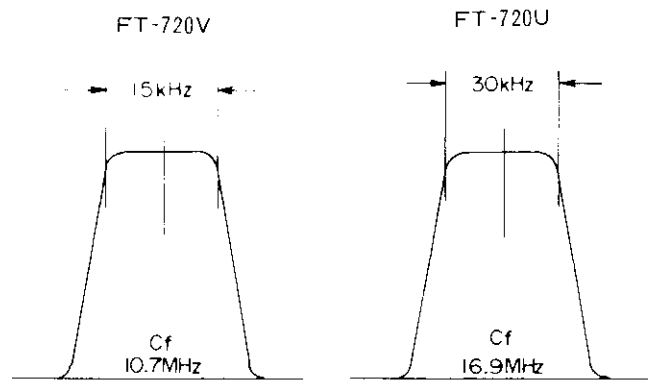

Figure 1
- c) Adjust the core of T_{1003} for maximum deflection on the scope, then adjust T_{1001} and T_{1002} so that the display shown in Figure 1 is obtained. Remove the clip lead connected to the base of Q_{1005} .
(3) First Local Helical Resonator Adjustment (FT-720RU)